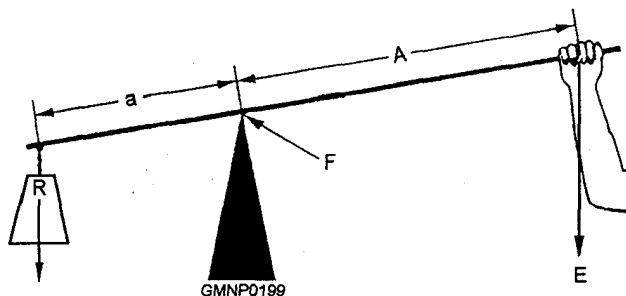

Figure 4-7.—A simple lever.
The three basic components that comprise all levers are the fulcrum (F), a force or effort (E), and a resistance (R). Look at the lever in figure 4-7. You see the pivot point (F, fulcrum), the effort (E) that you apply at a distance (A) from the fulcrum, and a resistance (R) that acts at a distance (a) from the fulcrum. Distances (A) and (a) are the lever arms.